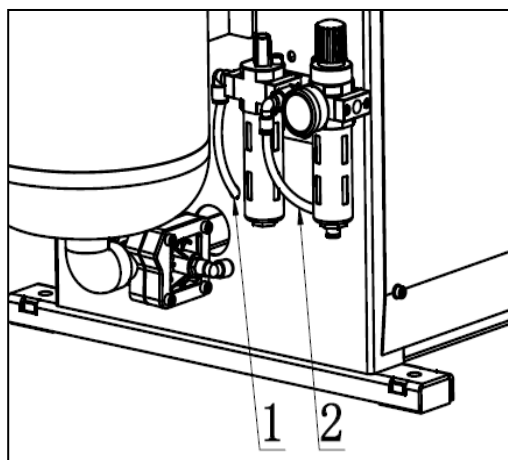

FIG 6
- b) Connect the PU hose into the connectors of air regulator like FIG6. (if the machine is without the GT function, just need to connect the hose like FIG6-1).